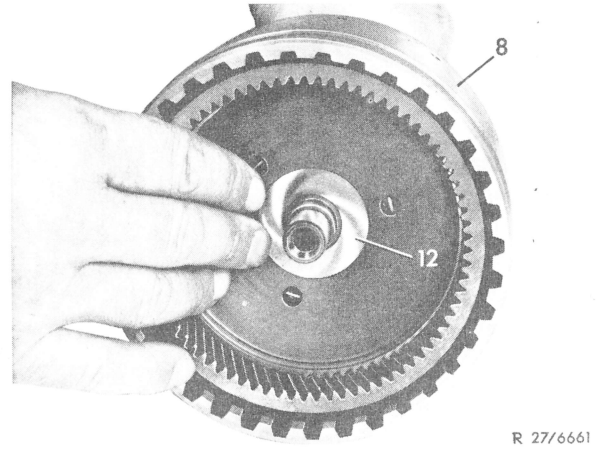

Fig. 17
27 Insert intermediate shaft (12) into clutch K 2 while rotating slightly, so that the teeth of the inner disc carrier enter the inner discs (Fig. 17).